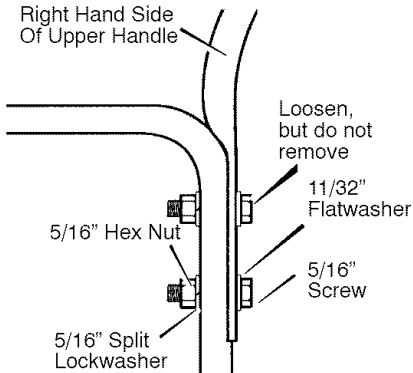

Figure 3
2. Loosen, but do not remove, the screws, flatwashers, lockwashers, and hex nuts in the upper holes of the lower handle. See Figure 3.
3. Remove the fasteners from the lower holes of the lower handle. See Figure 3.